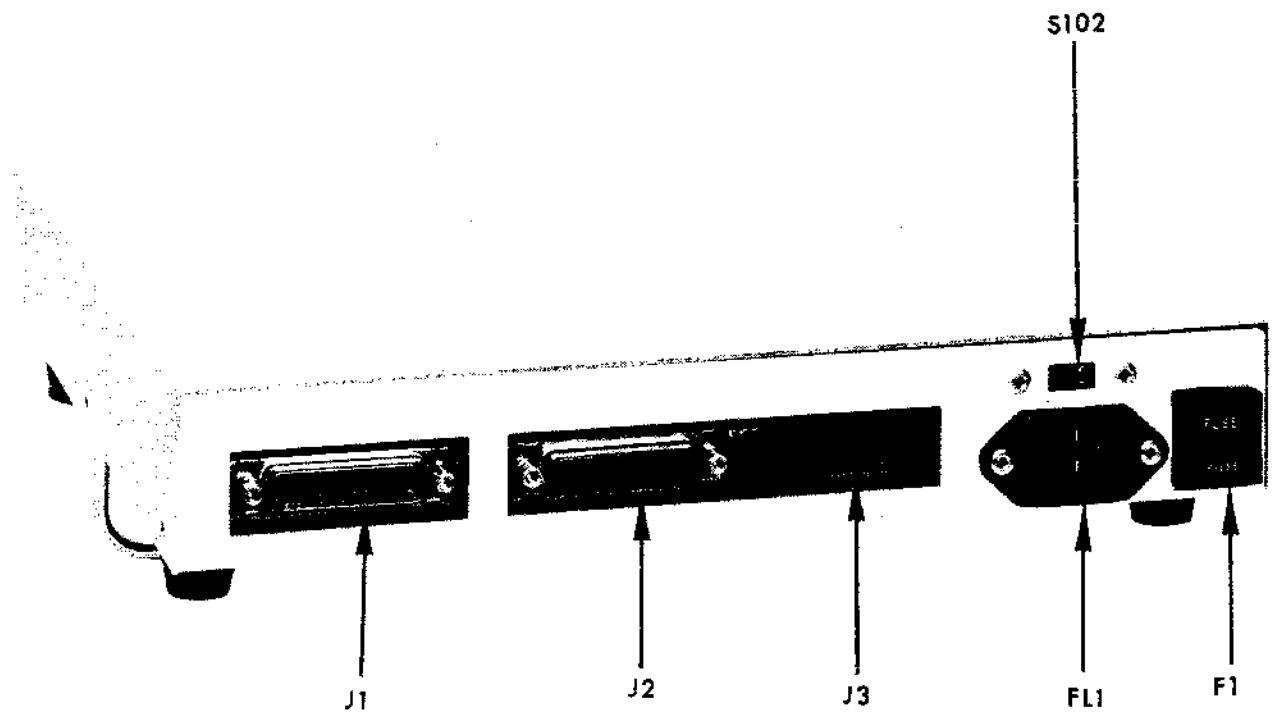

Figure 2-3. Rear View of RJ2322 Showing Location of Connectors, Fuse and A.C. Power Select Switch.
The unit also contains a selector switch (S102; see Figure 2-3) for 115 VAC or 230 VAC power selection. This switch is factory set to 115 VAC. If 230 VAC operation is required, remove the power cord, place the switch in its 230 VAC position and reapply the power cord.
A.C. power is applied to the unit through a standard three-wire power cord to the power connector (FL1) located at the rear of the unit. Refer to Figure 2-3 for location of connectors.